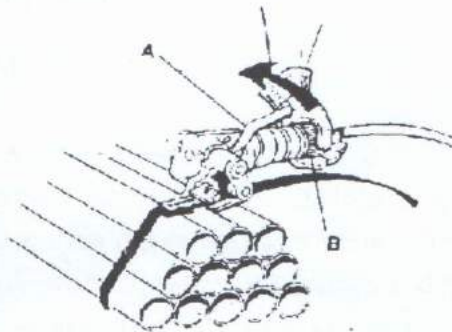

图4 (Fig4)
3.减速箱体尾部的调速阀具有停止,半开,全开三档位置,如图4所示,顺时针方向旋转调速阀,收紧滚轮转动并将穿过扣子的钢带拉紧到饱和状态时,收紧滚轮便停止转动,但调速阀仍固定在“全开”位置上。
3.At the end of deceleration box, as per Fig. 4, there are three grades of speed control valve: stop,semi-operate,operate. Move speed control valve clockwise, feed wheel start turn and tension the steel strap to saturation state until feed wheel stop turning, but speed control valve is still fixed on“operate”